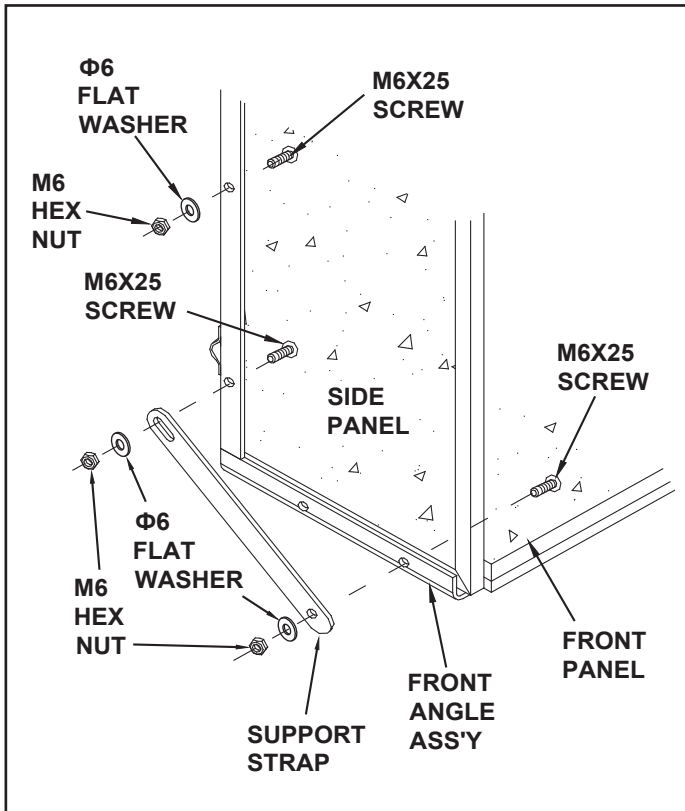

FIGURE 7
- Place one side panel in position against a side angle and down on top of the front panel. Start one M6 x 25 screw through the **center hole** in side panel and side angle. Secure with hex nut and flat washer. See figure 7. **Make only finger tight at this time.**
- Start one M6 x 25 screw through front hole on side panel and side angle. Start another M6 x 25 screw through top hole on side panel and front angle assembly. Next, place a support strap over these two screws and secure it with flat washers and hex nuts, **making only finger tight at this time.** See figure 7.